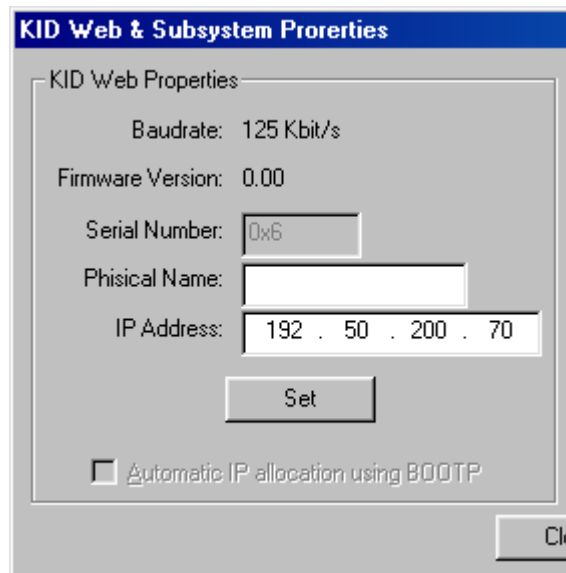

Fig. 5.5
- ♦ **IP address** – The customer's network IP address must be entered here. In case your PC has an IP address, for example 192.200.140.10 then the IP address to be allocated to the KID Web will be 192.200.140.11 **if this number (11) was not already used for some other device in the network**. Fig. 5.5 illustrates an IP address used in this Manual for demonstration purposes.